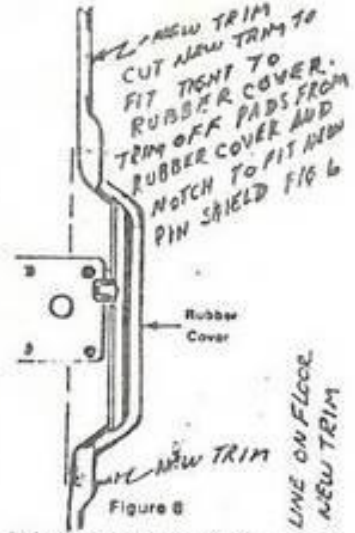

Figure 6
6. Cut and fit rubber cover and cement to new pin shield. (See Figure 6).